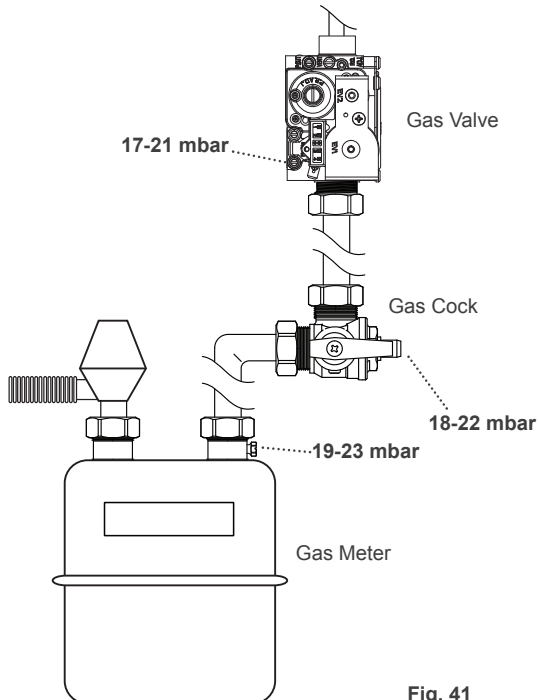

Fig. 41
2. With the boiler operating in the maximum rate condition check that the operational (working) gas pressure at the inlet gas pressure test point is in accordance with B.S. 6798 & B.S. 6891. This must be AT LEAST 17 mb at the valve & 18mb at the gas cock ! (Fig. 41).